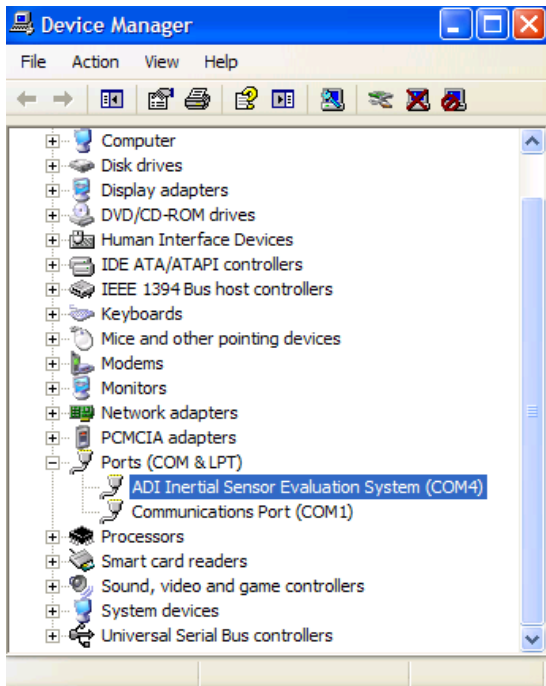

Figure 6. Device Manager Showing the COM Port Number
3. Select **Device Manager**, expand the **Ports (COM & LPT)** menu item as shown in Figure 6. **ADI Inertial Sensor Evaluation System** should be listed with an assigned COM port number in parenthesis.